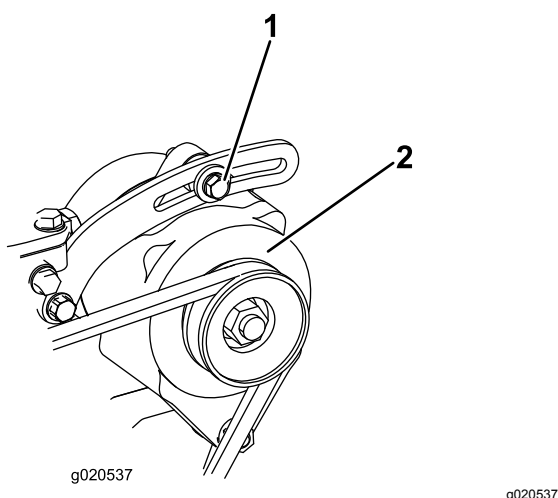

Figure 87
2. If the deflection is not 10 mm (3/8 inch), loosen the alternator mounting bolts (Figure 87). Increase or decrease the alternator belt tension and tighten the bolts. Check the deflection of the belt again to ensure that the tension is correct.